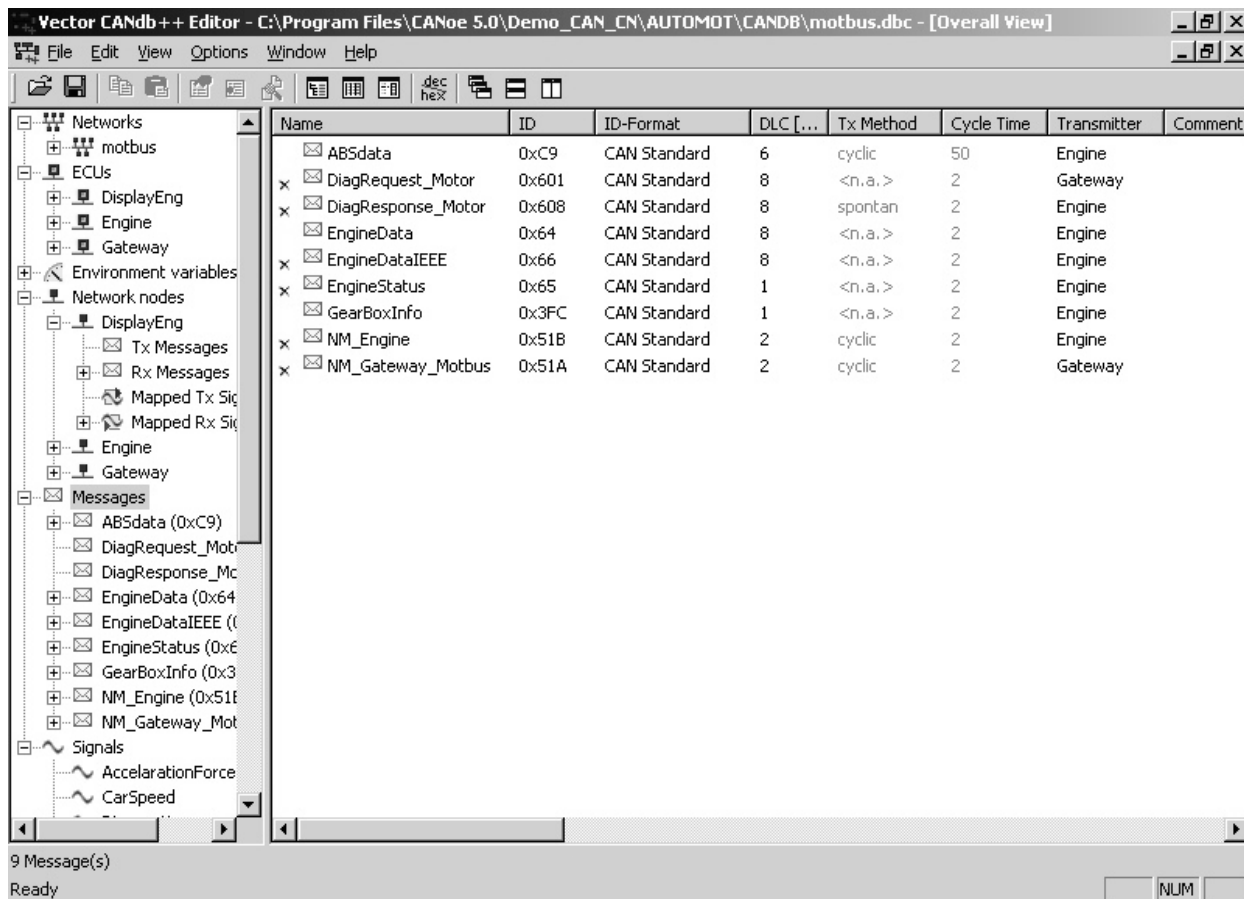

Figure 57 – CANdb++ Editor - Overall View
- The **CANdb++ Editor** shows all of the database objects grouped in the **Overview** window, where almost all database operations are performed (as shown in Figure 57).